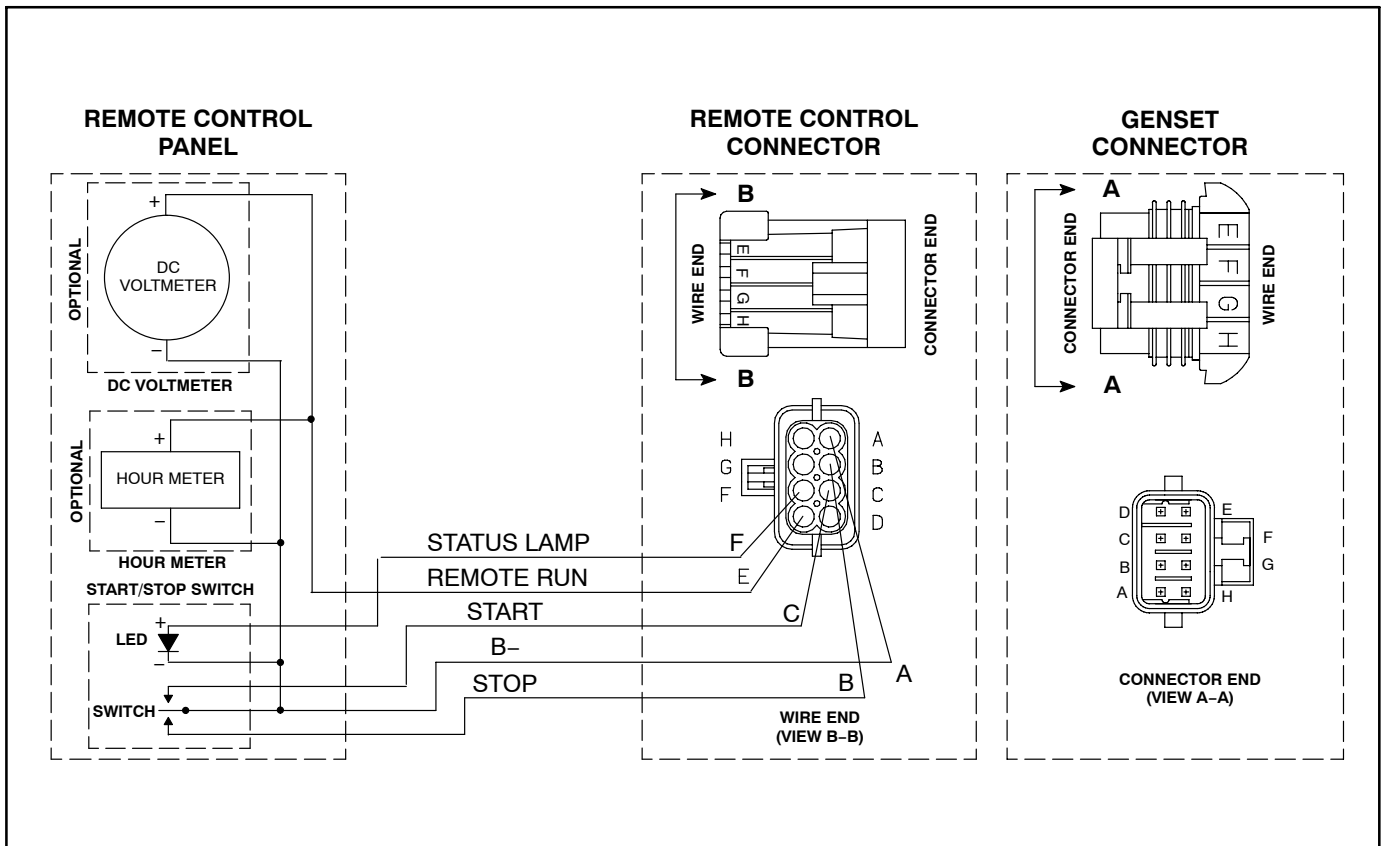

FIGURE 5-7. SCHEMATIC OF TYPICAL REMOTE CONTROL CONNECTIONS
2. Refer to Figure 5-7 to fabricate the remote control panel and/or wiring harness when not using the accessories available from Onan. Mark the remote control end of each lead to identify the connector pin number at the genset. Use insulated 18 AWG copper conductors for distances up to 30 feet (9 meters) and heavier gauge conductors for greater distances. Protect the wiring with full-length flexible sheathing.